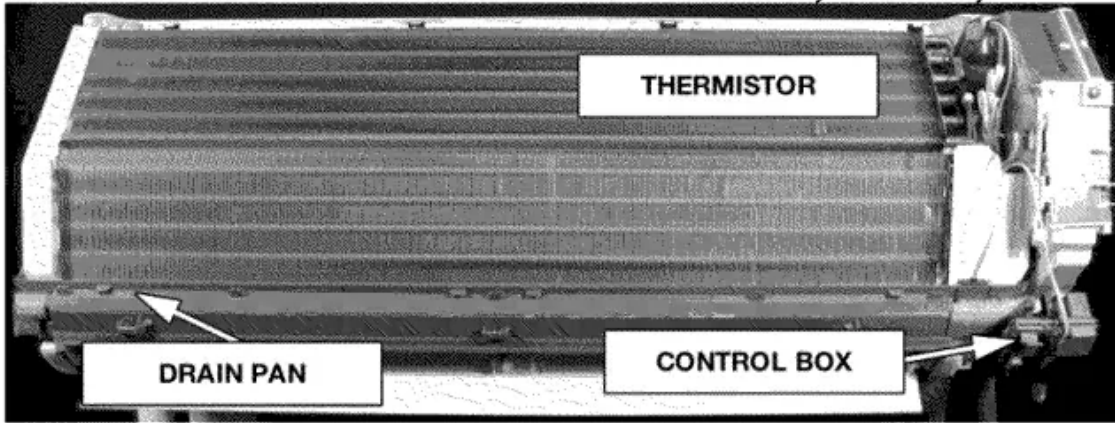

Fig 2: Typical indoor unit with cover removed
- Remove front cover of indoor unit in order to expose the coil and the control circuit area of the unit (Fig 2). The disassembly of the front cover, air filters, and possibly electrical shields will vary according to style of indoor unit installed.